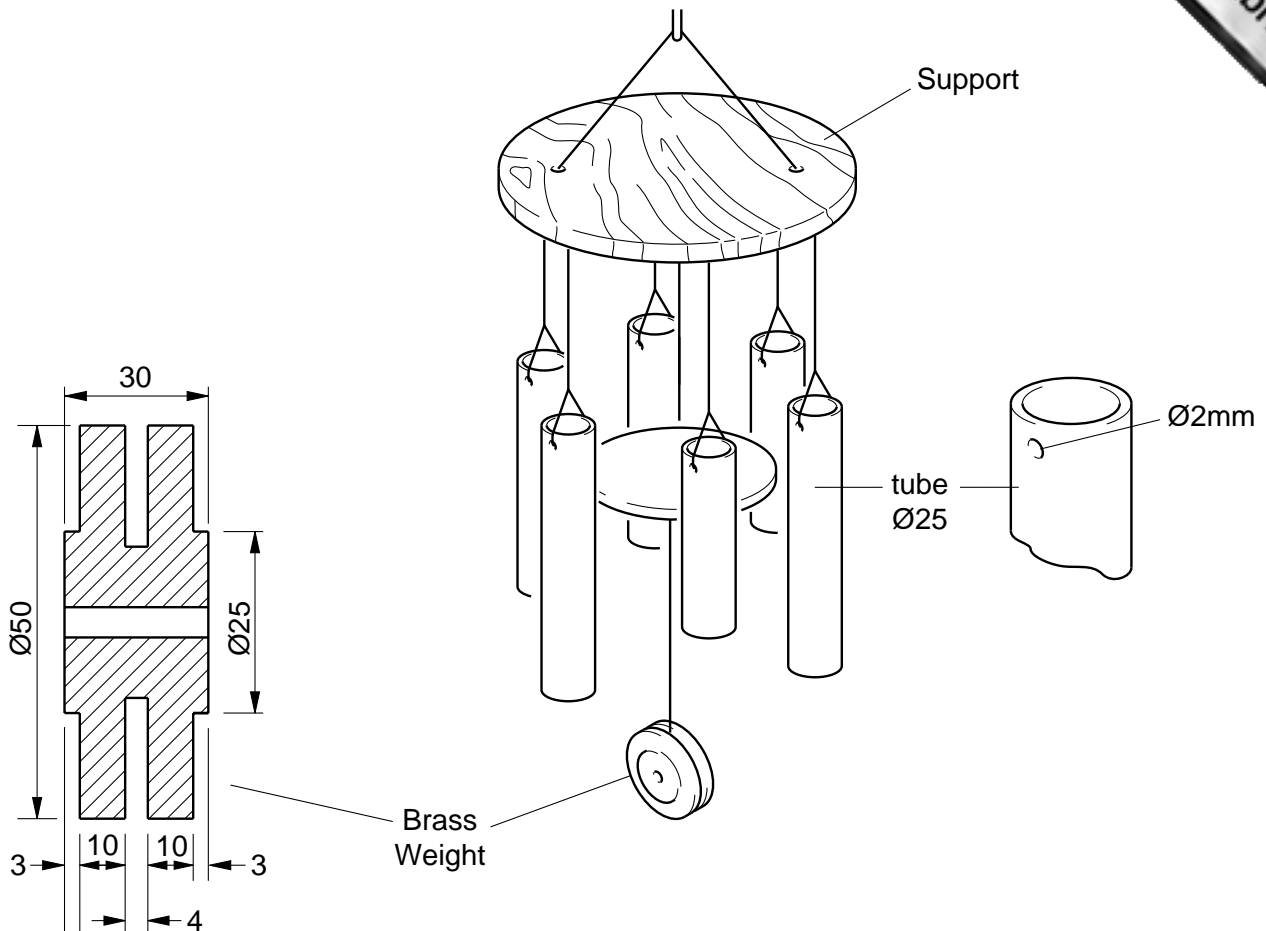

Fig. 7
- 9 Fig. 7 shows details of a wind chime to hang from the branch of a tree.